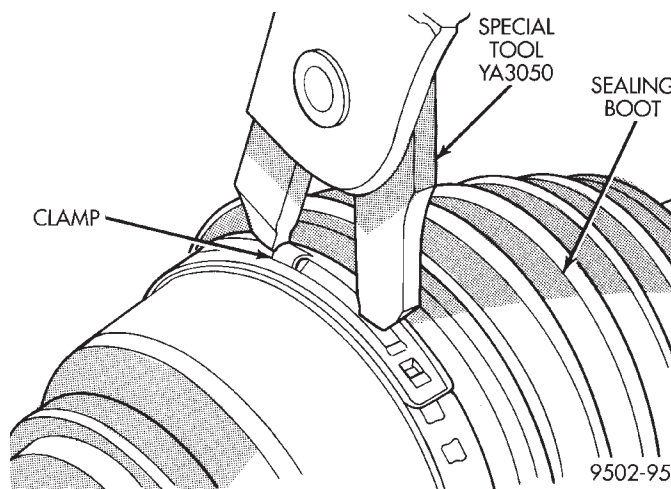

Fig. 40 Clamping Tool Installed on Sealing Boot Clamp
- Place prongs of clamp locking tool in the holes of the clamp (Fig. 40).